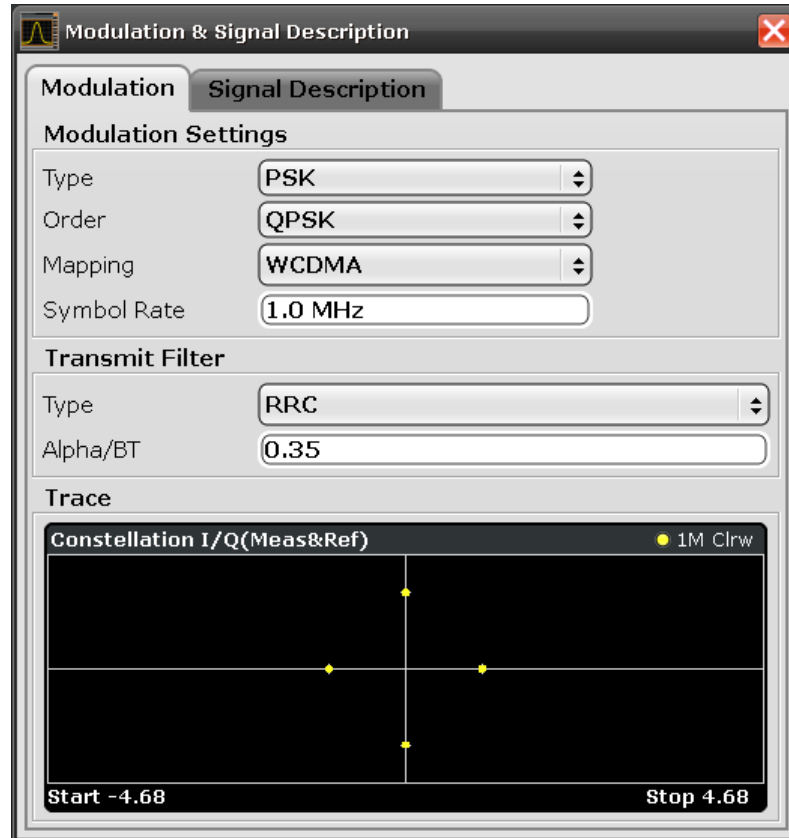

Fig. 9-3: QPSK signal with RRC transmit filter
- c) In the "Transmit Filter" section, select "RRC" as "Type" and enter the "Alpha/BT" value 0.35. In the preview area of the dialog you should then see a non-distorted QPSK constellation diagram, as shown in figure 9-3.